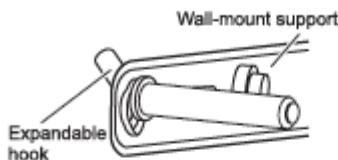

Fig.3
- Determine the installation position of the water heater. Based on the measurements indicated in at the bottom of page 1, use impact drill to drill two holes of 12mm in diameter and 65mm in depth. Insert the expandable hooks into the holes and ensure that they are securely fixed. Lift the water heater and slip its wall mount support onto the expandable hooks (as show in Fig.3). Check to make sure the machine is securely suspended.